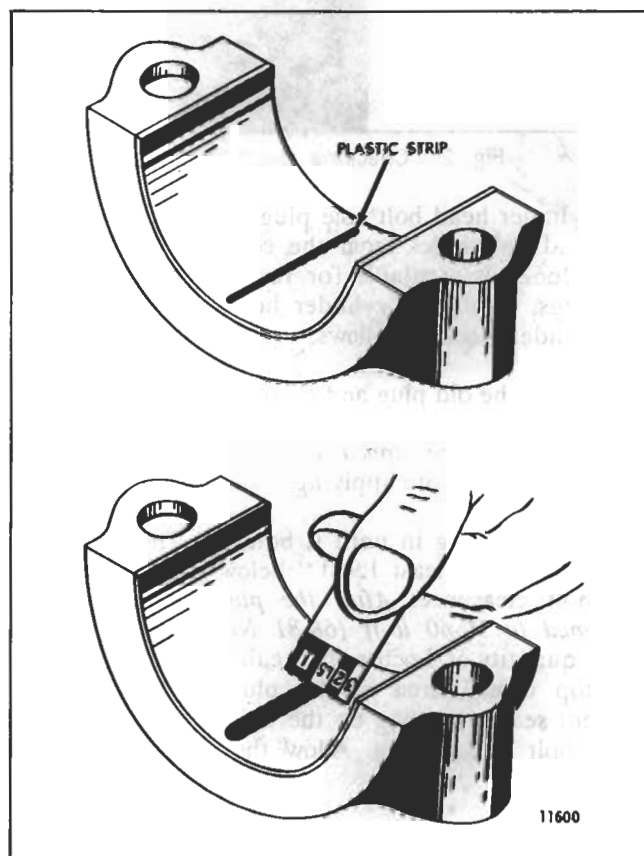

Fig. 1 - Using Plastic Strip to Measure Bearing-to-Crankshaft Clearance
2. Place a piece of the plastic strip the full width of the bearing shell, about 1/4" off center (Fig. 1).
its widest point with the graduations on the envelope (Fig. 1). The number within the graduation on the envelope indicates the bearing clearance in thousandths of an inch. Taper may be indicated when one end of the flattened plastic strip is wider than the other. Measure each end of the plastic; the difference between the readings is the approximate amount of taper.